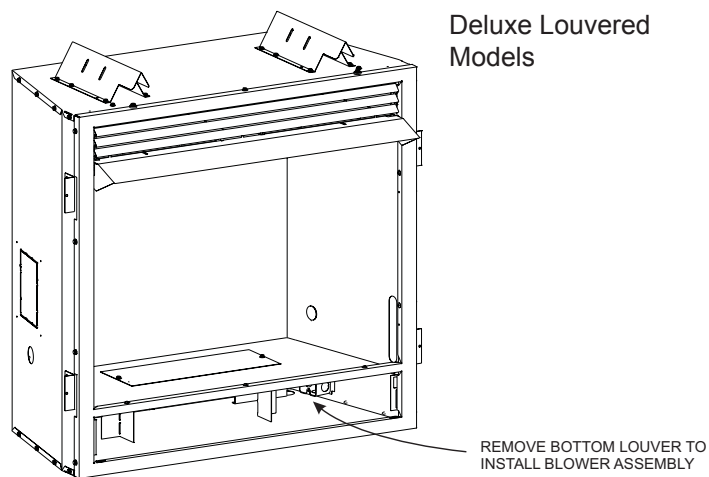

Figure 21
3. Determine which type of firebox you have prior to installation. **See Figures 21 and 22.**